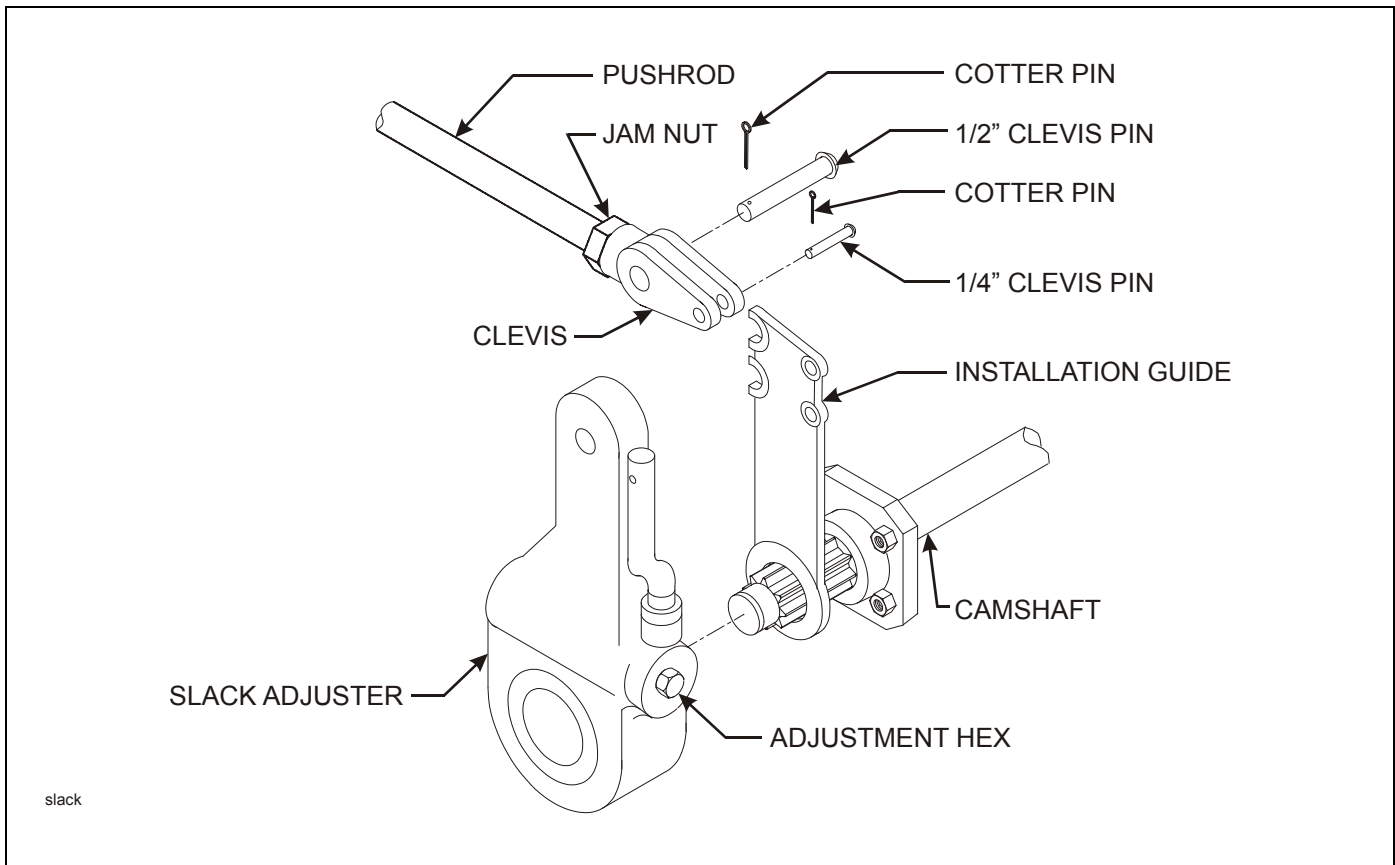

Figure 4-13: Slack Adjuster
4. Disconnect the slack adjuster from the connecting rod by removing the clevis pin (**See Figure 4-13.**)
4. Remount the brake chamber on the axle brackets and reconnect the air service hoses and the slack adjuster connecting rod (**See Figure 4-13.**)
2. Check that the push rod is fully retracted, apply air to release spring brake **(See Figure 4-13.)**
3. Remove the existing slack adjuster and clevis - **DO NOT REMOVE EXISTING JAM NUT (See Figure 4-13.)**